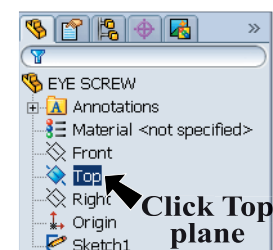

Fig. 8
Step 2. Click **Top** (plane) in the Feature Manager (left panel), **Fig. 8**.